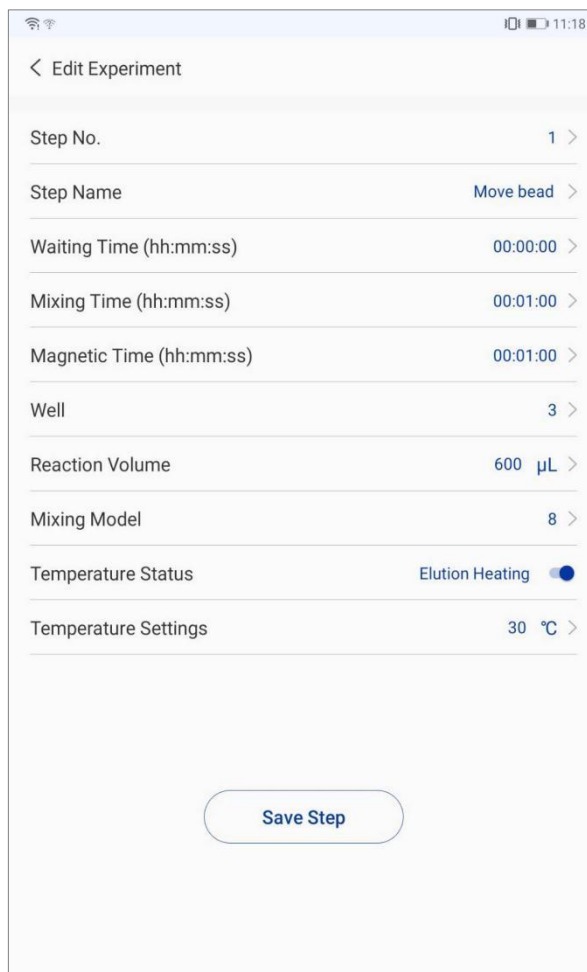

Figure 5-8. Experiment Interface - Edit Step Parameter
- **Edit Step**: click <  **Edit** > inside any step card to edit the step parameters, as shown in figure 5-8.
- ▶ After finish editing the step, user can click < **Save Step** > to save current step settings and return to previous interface, as shown in figure 5-8.